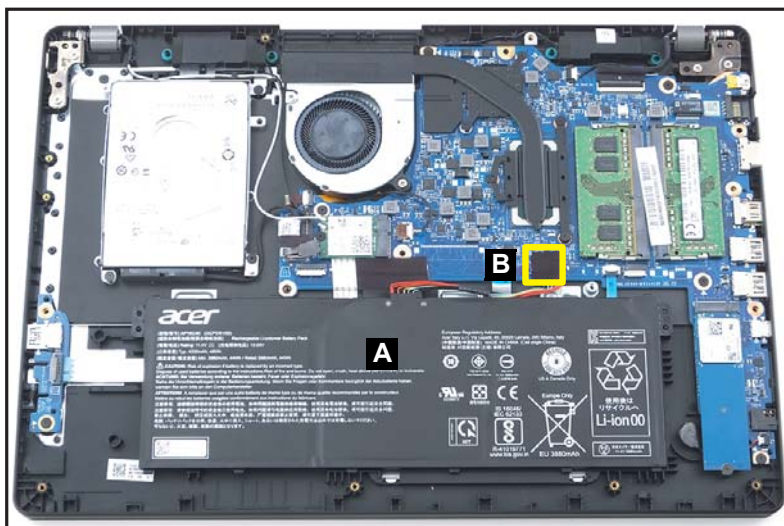

Figure 1-6. Battery Pack Removal
1. Find the battery pack (A) in the system (Figure 1-6).
2. Detach the tape (B) securing the battery cable to the mainboard connector (Figure 1-6).